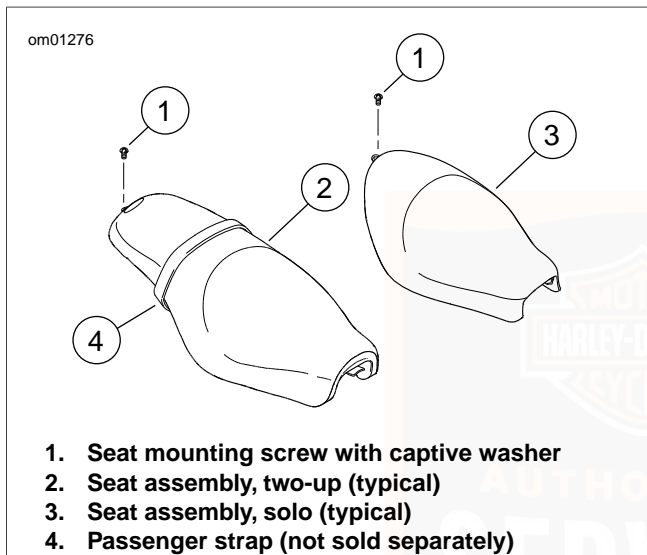

Figure 72. Seat Assembly: Sportster XL Models
1. See Figure 72. Remove screw (1) to detach seat from rear fender.
4. See Figure 72. If two-up seat (2), inspect passenger strap (4) for damage or excessive wear.
1. See Figure 72. Position seat on frame with mounting bracket at rear.
4. See Figure 72. Install seat mounting screw with captive washer (1) to fasten seat mounting bracket to top of rear fender. Mounting bracket of solo seat uses forward hole in rear fender; dual seat uses rearward hole.